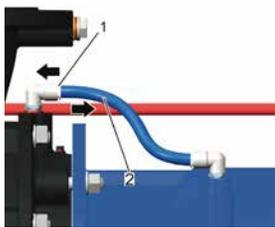

Fig. 54 Removing the cooling water pipe
7. Press and hold down the (Fig. 54/1) pressure ring.
8. Pull the cooling water pipe (Fig. 54/2) out of the right-angle connector.
9. Release the pressure ring (Fig. 54/1) again.